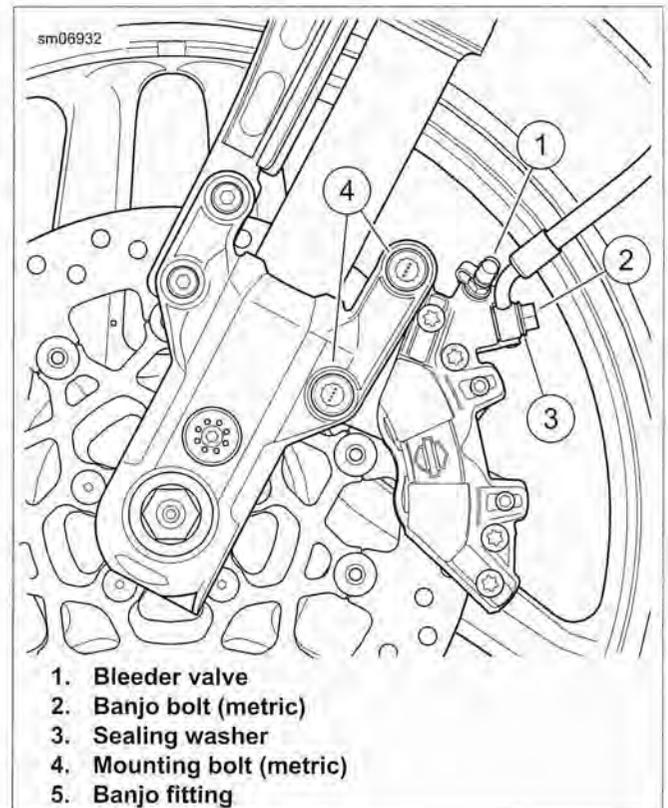

Figure 2-64. Front Caliper Assembly: XR 1200X
1. See Figure 2-64. Remove bleeder nipple cap from bleeder valve (1) on front brake caliper.
3. See Figure 2-64. Remove the banjo bolt (2) (metric) and both washers (3) to detach front brake line from caliper. Discard washers.
4. Remove both mounting bolts (4) (metric). Pull caliper assembly rearward to remove from brake disc.